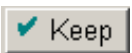

Figure 2: ScienceWorkshop Sensors
2. Screw down the clamp to the edge of a table. (See photo below Figure 2)